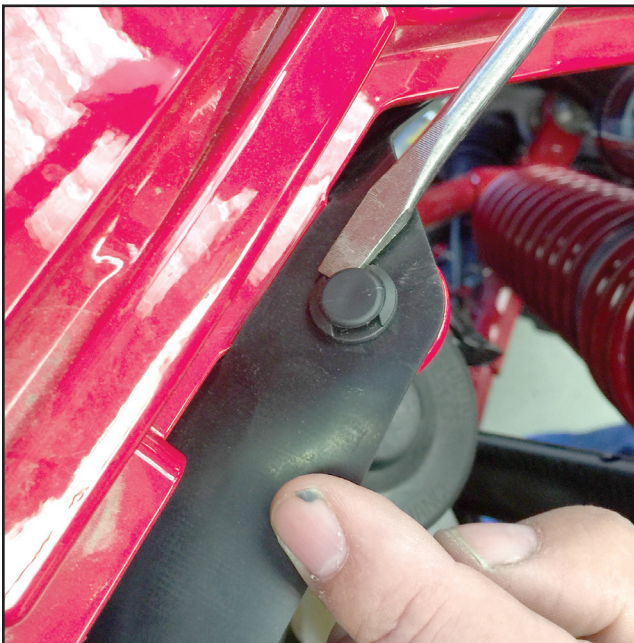

Figure 1
2. Remove the factory rubber shield that is held in place with plastic push pins. Use a flat blade screw driver to lift the center pin up and removing the complete push pin. This will not be reused. See fig 1